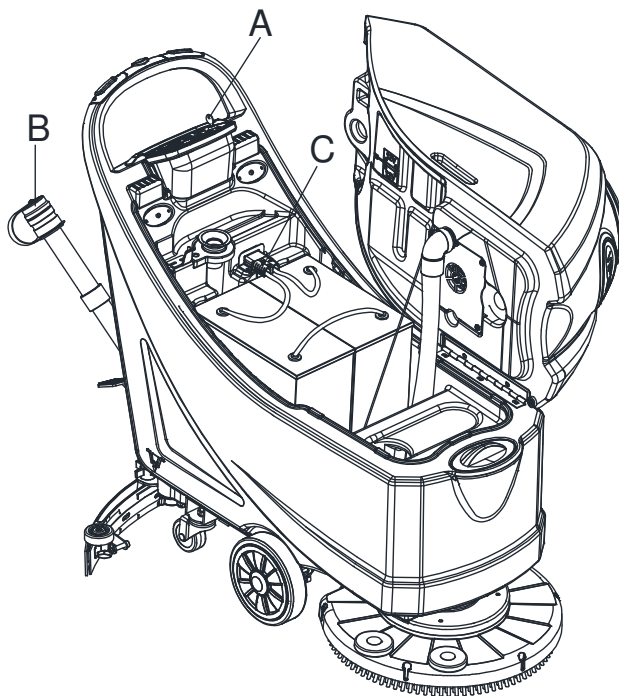

Figure 23
4. Clean the recovery tank lid (A), recovery tank (B), clean water tank(C) and the float ball filter support frame (E). Empty the recovery tank with the drain hose (B, Figure23).
2. Disconnect the power supply cable(C, Figure23) from the electrical mains.